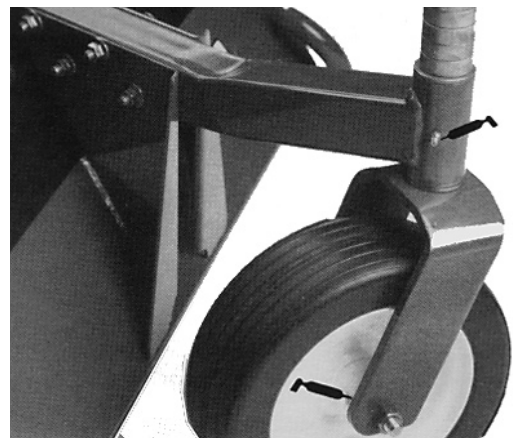
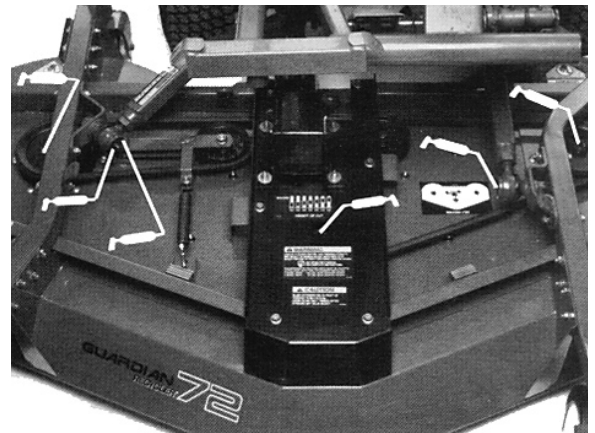

Figure 5
Figure 7
### GREASE BEARINGS, BUSHINGS AND GEAR BOX (Fig. 5–8)
1. The cutting unit has bearings and bushings that must be lubricated, and these lubrication points are: front castor spindle bushings (Fig. 5); castor wheel bearings (Fig. 5 & 6); blade spindle bearings (Fig. 7); idler arm pivot (Fig. 7) and right and left push-arm ball joints (Fig. 7).